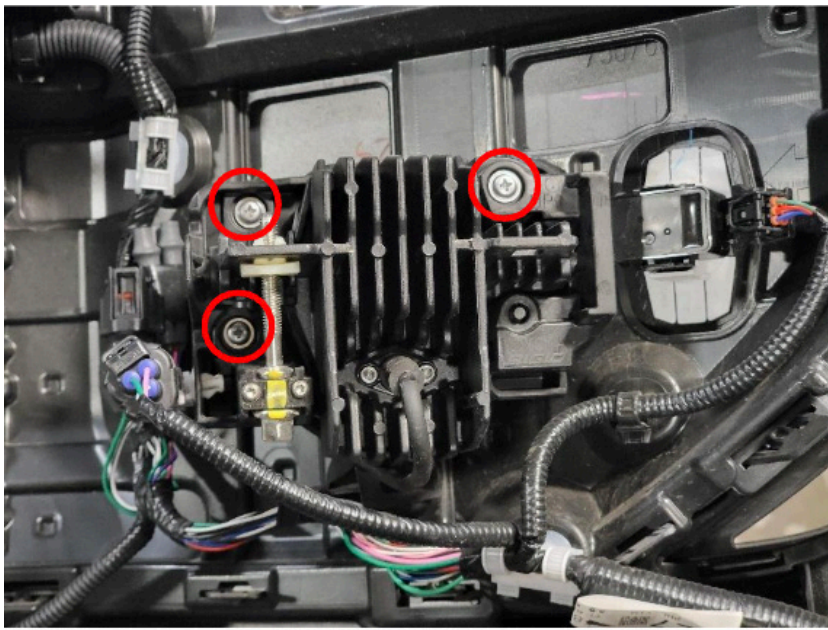

Figure 21.
17. Using a Phillips head screwdriver, remove the three (3) screws, attaching the fog lights to the bumper. Figure 21.